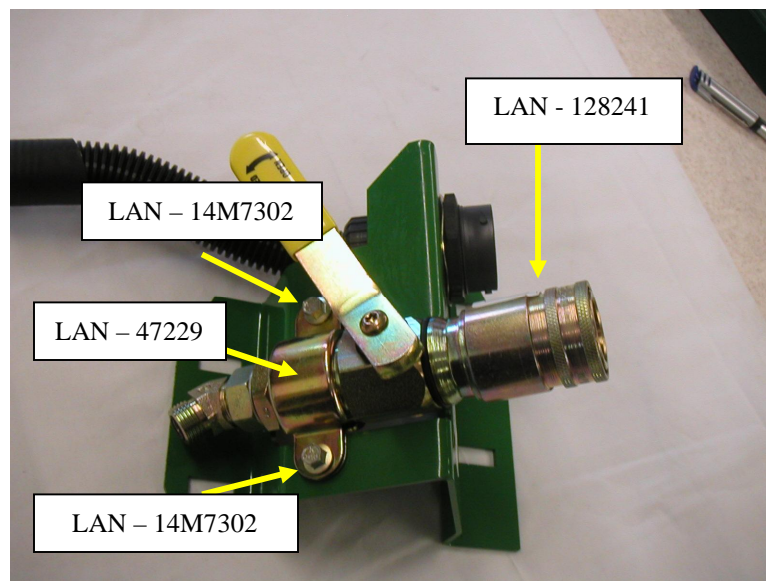

Figure 10
9. Install the large Quick Coupler (LAN – 128241) to the top position on the Bracket (LAN – 172176). Retain coupler with two Yokes (*LAN – 47229), two Bolts (*LAN – 14M7302) and two Lock Nuts (*LAN – 14M7303) (See Figure 10).